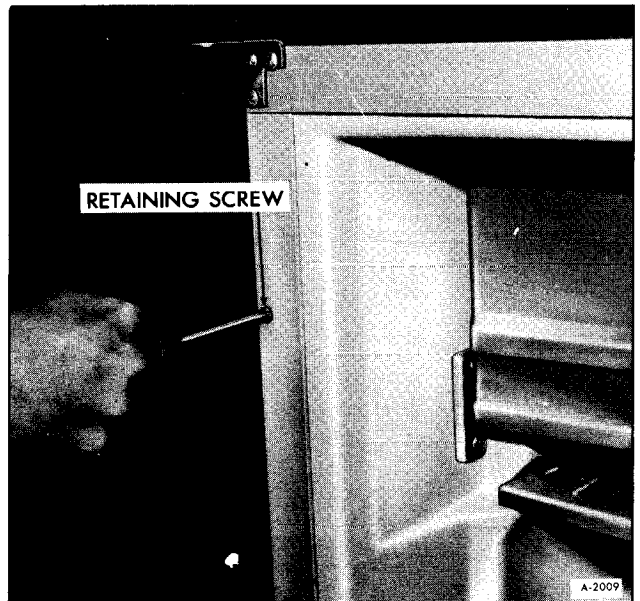

Figure 6-Removing Refrigerator Retaining Screws
4. Remove four screws from sides of refrigerator as shown in Figure 6.
2. Install four retaining screws (figure 6).